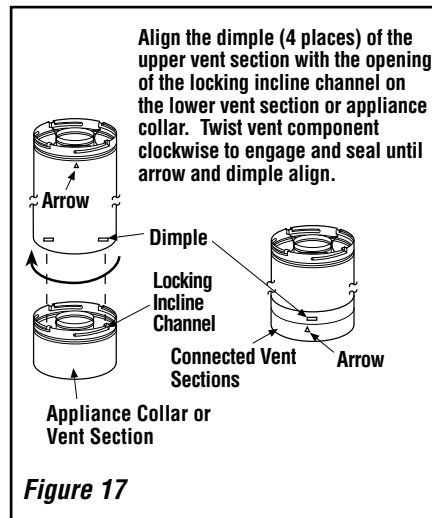

Figure 17
B. Attach vent components to appliance - Secure Vent SV4.5 direct-vent system components are unitized concentric pipe components featuring positive twist lock connections (see Figure 17).
To attach a vent component to the appliance collar, align the dimpled end over the collar, adjusting the radial alignment until the four locking dimples are aligned with the inlet of the four inclined channels on the collar (**refer to Figure 17**). Push the vent component against the collar until it fully engages, then twist the component clockwise, running the dimples down and along the incline channels until they seat at the end of the channels. The unitized design of the **Secure Vent™** components will engage and seal both the inner and outer pipe without the need for sealant or screws. If desired, a #6 x 1/2" screw may be used at the joint, but is not required as the pipe will securely lock when twisted.
Push the vent component against the previous section until it fully engages, then twist the component clockwise running the dimples down and along the incline channels until they seat at the end of the channels. **This seating position is indicated by the alignment of the arrow and dimple as shown in Figure 17.**
Secure Vent SV4.5 direct-vent system components are unitized concentric pipe components featuring positive twist lock connection, (refer to Figure 17 on Page 14). All of the appliances covered in this document are fitted with collars having locking inclined channels. The dimpled end of the vent components fit over the appliance collar to create the positive twist lock connection.
D. Attach vent components to appliance - To attach a vent component to the appliance collar, align the dimpled end over the collar, adjusting the radial alignment until the four locking dimples are aligned with the inlets of the four incline channels on the collar (see Figure 17 on Page 14).
Push the vent component against the previous section until it fully engages, then twist the component clockwise running the dimples down and along the incline channels until they seat at the end of the channels. **This seating position is indicated by the alignment of the arrow and dimple as shown in Figure 17 on Page 14.**
The elbows feature a twist section to allow them to be routed about the center axis of their initial collar section to align with the required direction of the next vent run element. **Twist elbow sections in a clockwise direction only so as to avoid the possibility of unlocking any of the previously connected vent sections (see Figure 17 on Page 14).**